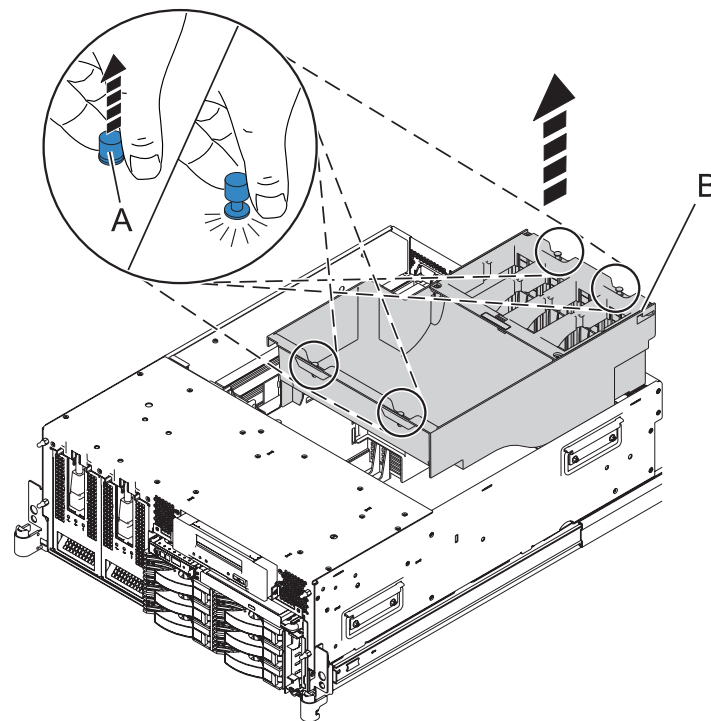

Figure 15. Removing the air baffle
7. Remove the air baffle by lifting each of the four locking tabs (A) and lifting the baffle (B) out of the system as shown in Figure 15.